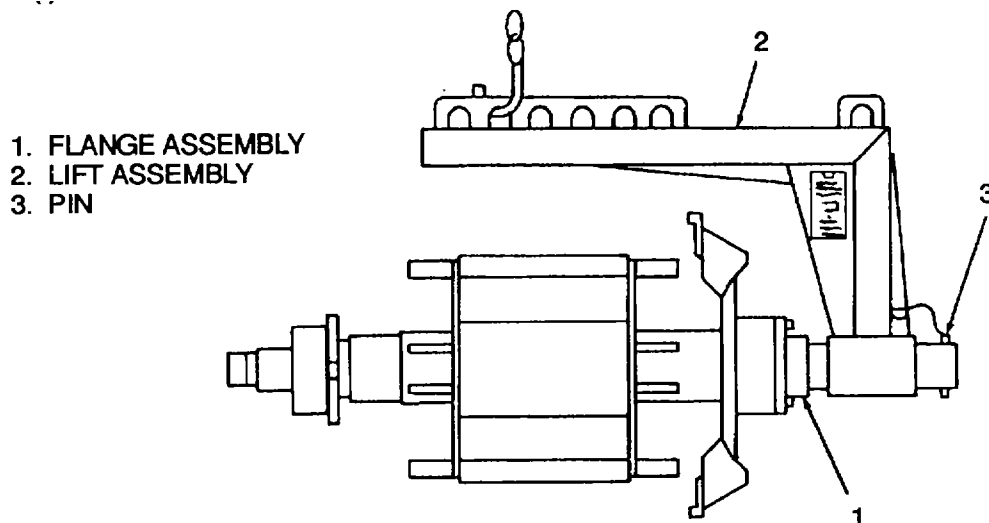

Figure 5-5. Rotor Assembly, Removal and Installation
- (a) Refer to Figure 5-5. Install flange assembly (1) on rotor assembly (15, Figure 5-1). Secure with six or more hexagon head screws (20), torqued to 150 pound-feet (230 newton-meters).
- (b) Slide lift assembly (2, Figure 5-5) onto flange assembly (1).
- (c) Attach pin (3) to flange assembly (1).